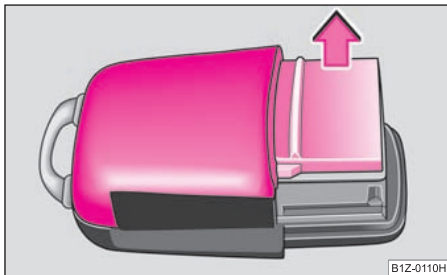

Fig. 35 Cover of the transmitter housing
- Take off the cover of the transmitter housing ⇒ fig. 35 in direction of arrow.